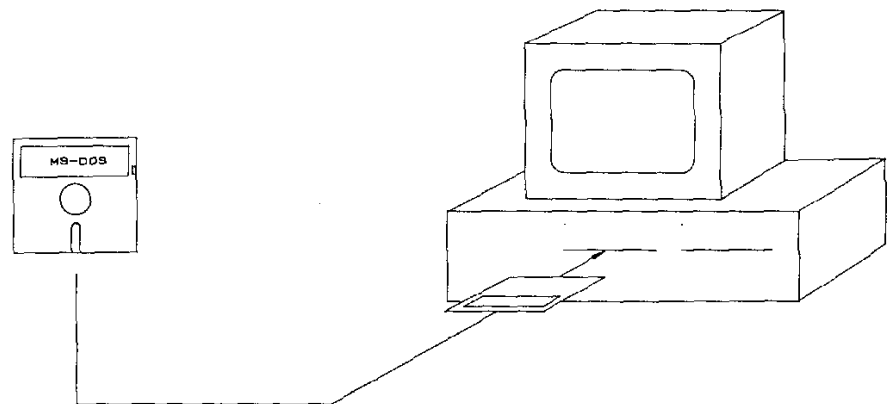

FIGURE 3.2
- Step 2** — As shown in Figure 3.2, place the MS-DOS disk in drive A (usually the left drive, or the top drive if the drives are stacked). Close the drive by closing the lever on the front in such a manner that the disk cannot be removed from the drive.